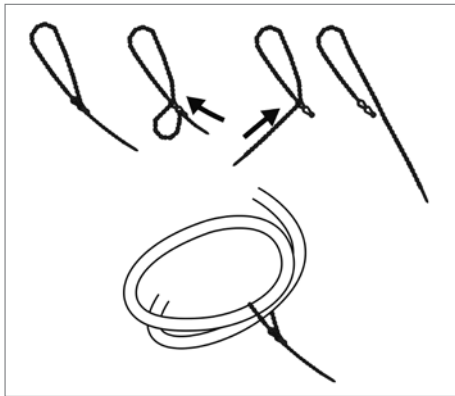

Fig. 11
8. Remove the reversible cable tie on the bottom line (see Fig. 11).
14. Remove the reversible cable tie(s) on the top lines (see Fig. 11).